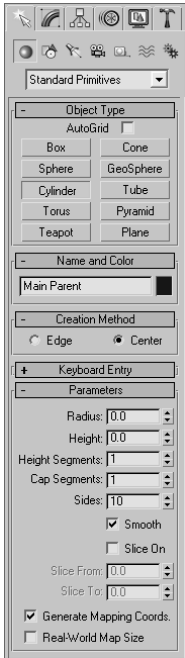

Figure 2.4
1. In the Command panel, activate the Create panel (as shown in Figure 2.4) by clicking on the Create tab (🔍). The Create panel is usually enabled by default. Click the Geometry button (🔍) to display the Geometry Object Types; it is usually enabled by default. You will see a number of ways to create various objects. You will begin most, if not all, of your Max models in this panel.
2. With Standard Primitives selected in the pull-down menu, as shown in Figure 2.4, click the create Cylinder button. The Cylinder button will turn orange, and your cursor will turn from the obligatory arrow to a cross.